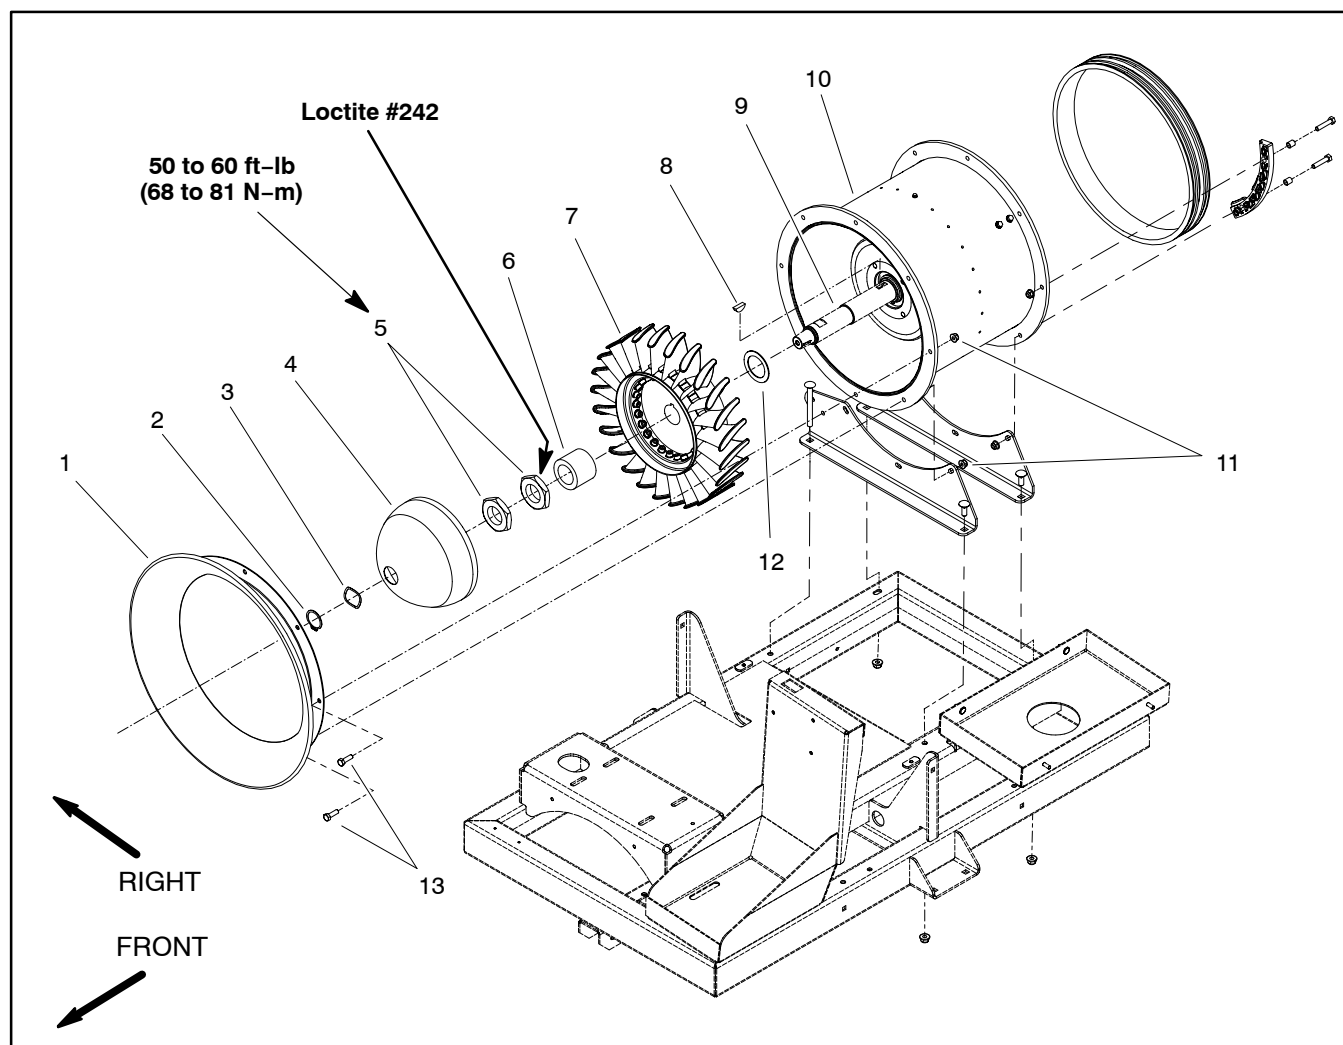
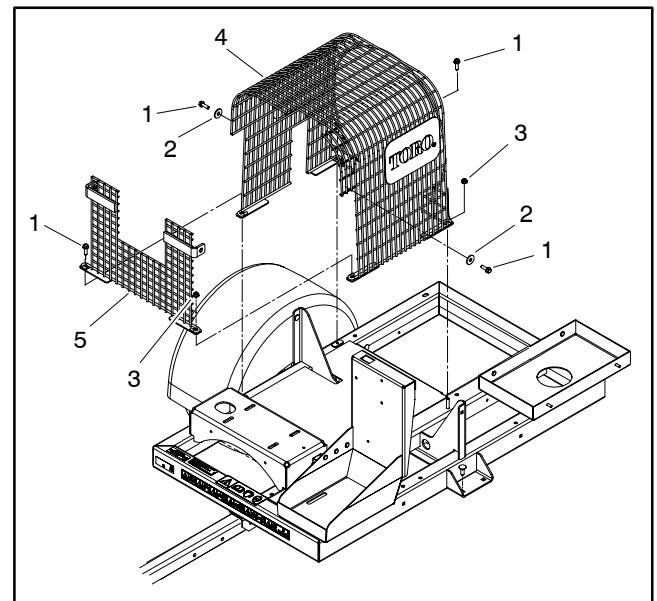

Figure 4
Figure 5
**Removal (Fig. 4)**
3. Remove top grill to allow access to blower assembly (Fig. 5).
5. Remove retaining ring (item 2), wave washer (item 3) and front cap (item 4) from shaft.
**IMPORTANT:** The two (2) nuts (item 5) used to secure the rotor assembly to the rotor shaft have left hand threads. Loosen these nuts by rotating clockwise.
7. Slide spacer (item 6), rotor assembly and washer (item 12) from shaft. Locate and retrieve woodruff key.
**Installation (Fig. 4)**
1. Position woodruff key in slot in rotor shaft. Slide washer (item 12), rotor assembly and then spacer (item 6) onto shaft.
**IMPORTANT:** The two (2) nuts (item 5) used to secure the rotor assembly to the rotor shaft have left hand threads.
4. Install front cap (item 4), wave washer (item 3) and retaining ring (item 2) onto shaft.
6. Install top grill to machine (Fig. 5).